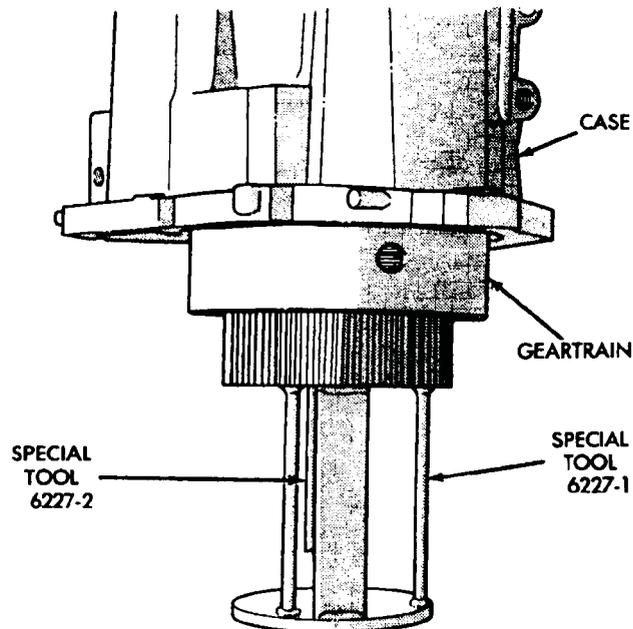

**Fig. 74 Front Bearing Locating Ring Installation**
(18) Install output shaft front bearing locating ring in case (Fig. 74).